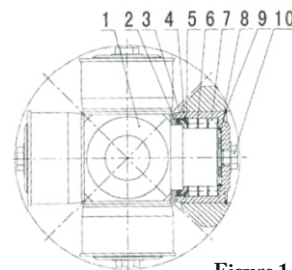

Figure 1.1
The composition of the journal cross bearings is shown in Figure 1.1. Three lines of rolls (7) are axially placed inside the bearing ring (6), closed by a ring (2), a seal (3), a flat spring, and held by a seal ring (4). A composite thrustbearing disc is placed at the bearing bottom with a grease nipple outside the bearing centre (10). The bearing is held inside the yoke by a seal ring (9).